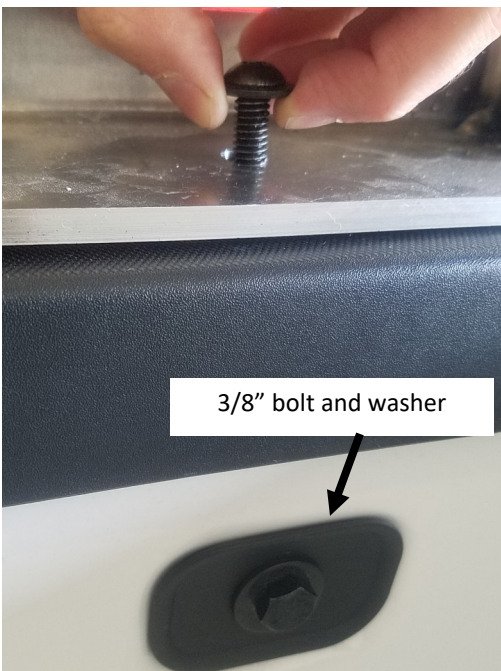

Figure 3: Threading 3.25" bolt.
- Insert 3.25" long bolt into slot and finger tighten in threaded plate (**Figure 3**). Repeat on other side.